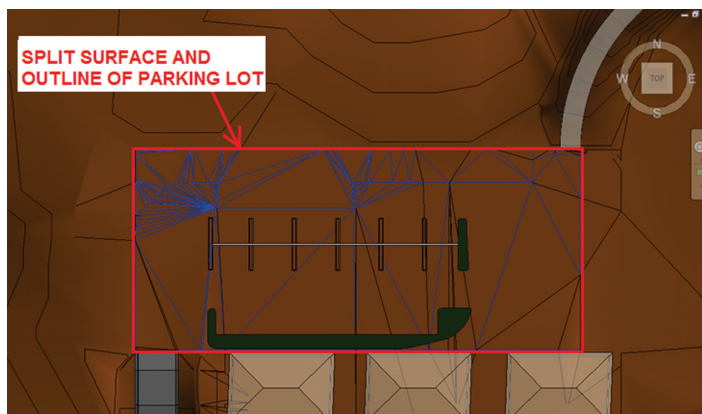

Figure 1: Parking lot location
2. Go to the site plan—go to the Site Tab > Split Region. Draw a rectangular boundary as shown in Figure 1 to represent the extents of the parking lot. The final boundary is shown in Figure 1.